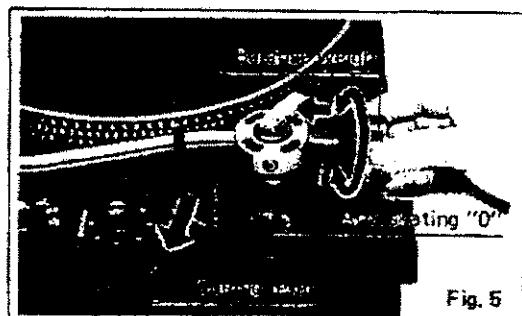
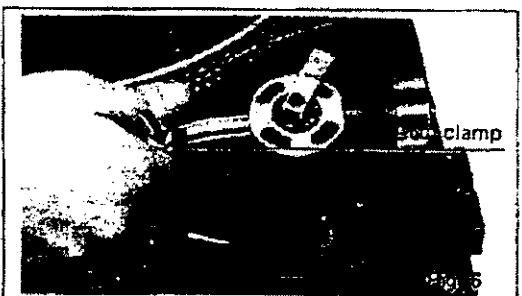
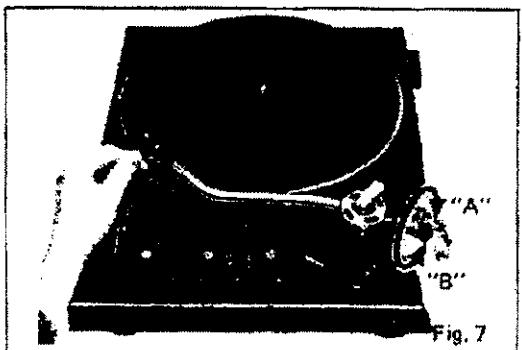

Fig. 5
Fig. 6
Fig. 7
- 1) Make sure that the cueing lever is in the lowered position as shown in Fig. 5.
- 3) Make sure that the anti-skating control knob is at "0" position. (See Fig. 5).
- ① Insert the balance weight onto the rear shaft of the tonearm. (See Fig. 5).
- ② Remove the stylus cover, if your cartridge has one.
- ③ Release the arm clamp (See Fig. 6) and lift the tonearm from the arm rest to free the tonearm. (See Fig. 7)
If the tonearm is urged to return to the arm rest when the tone-arm is held in a free state as in Fig. 7, rotate the turntable platter clockwise about 10 times. This is necessary because in rare cases, the automatic mechanism may have engaged the tonearm gear or moved out of its normal position during transportation.
- ④ Turn the entire balance weight clockwise (indicated by the arrow "A") or counterclockwise (indicated by the arrow "B") until the tonearm is approximately balanced horizontally. (See Figs. 7 and 8).